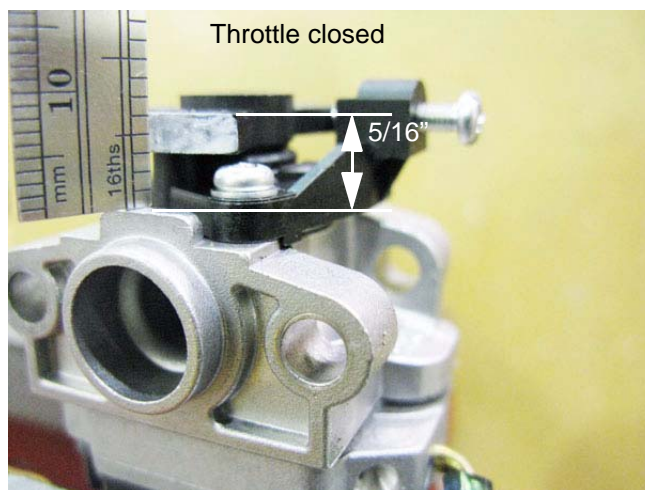

Figure 5.13
6. In idle position, the throttle is closed, the hole through the drum is cross-wise to the throat of carburetor and the drum is seated at the bottom of its travel. See Figure 5.13.